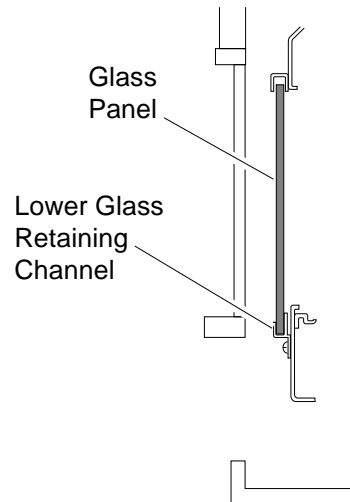

Figure 12 - Inserting Glass into Lower Retaining Channel
7. Lower glass into lower glass retaining channel (see Figure 12). Slide glass panel all the way to the left side.